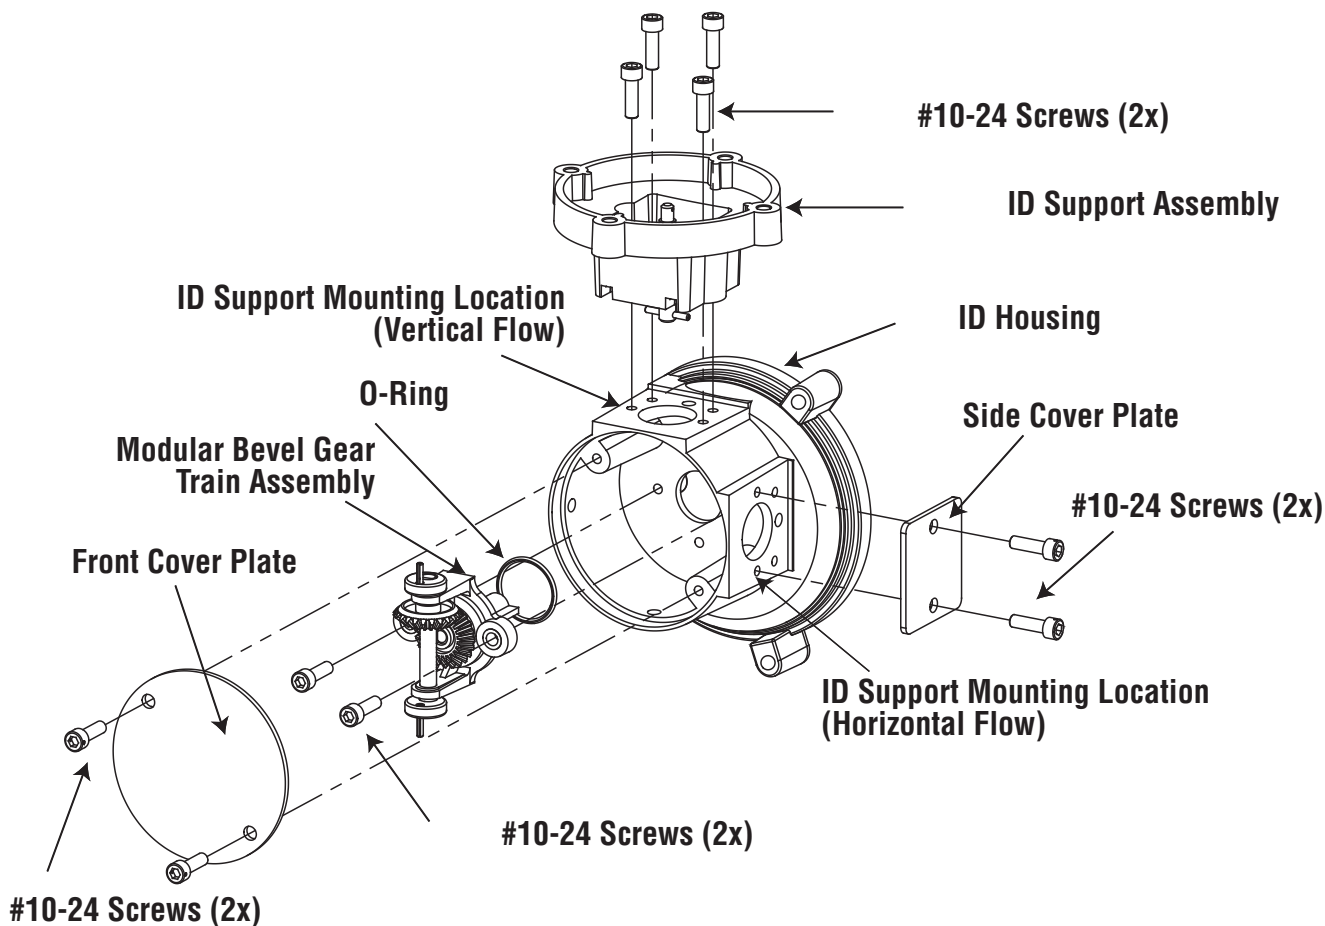

Figure 13 - Exploded View of Instrument Drive (ID) Assembly.
The following procedures are required to change the orientation of the instrument drive assembly. Refer to Figures 13 and 14 for component locations.
1. Using a 5/32" hex wrench, remove the two #10-24 screws holding the Front Cover Plate onto the aluminum ID housing. Remove the cover plate. (Refer to Figure 13 for component identification.)